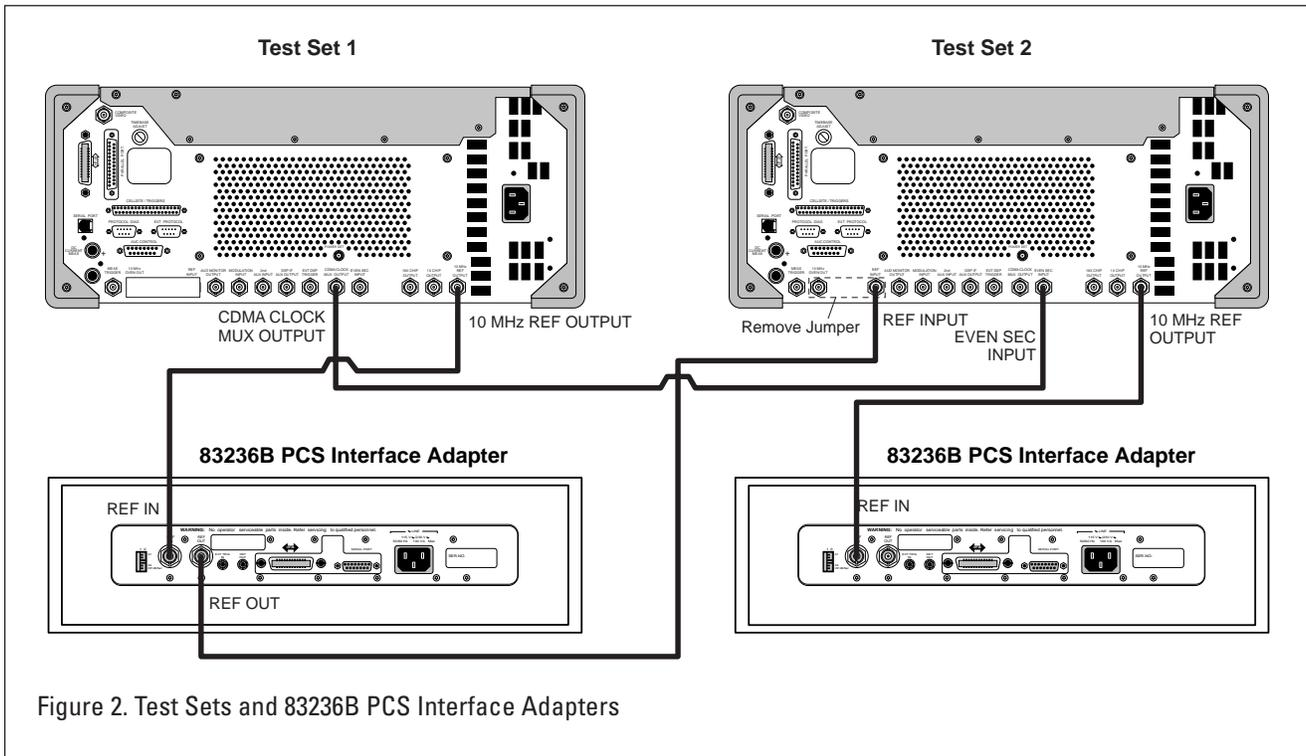

Figure 2. Test Sets and 83236B PCS Interface Adapters
- If Test Set 1 is configured with a PCS Interface, connect a cable between the 10 MHz REF OUT of the PCS Interface and the REF INPUT of Test Set 2; see Figure 2.